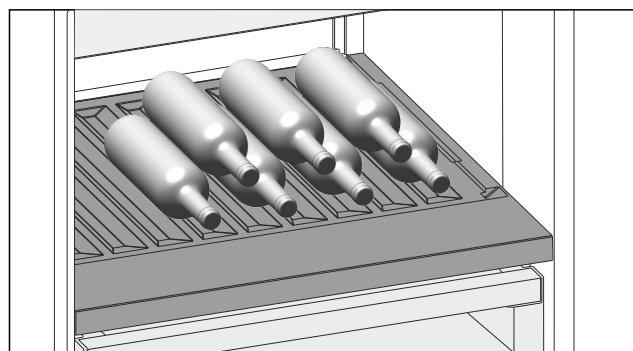

Fig. 109
- Insert the bottles facing backwards towards the rear wall. (see Fig. 109)